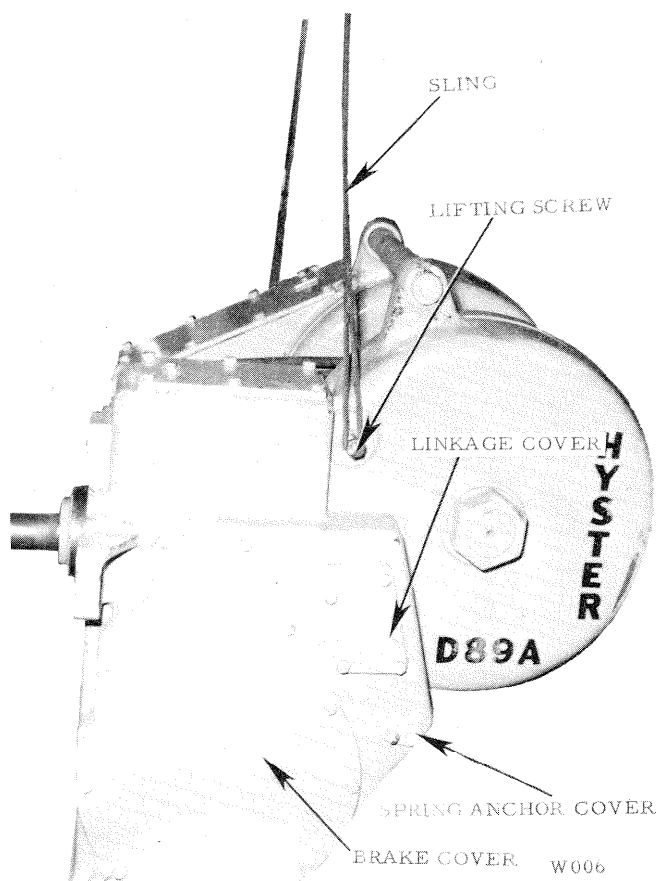
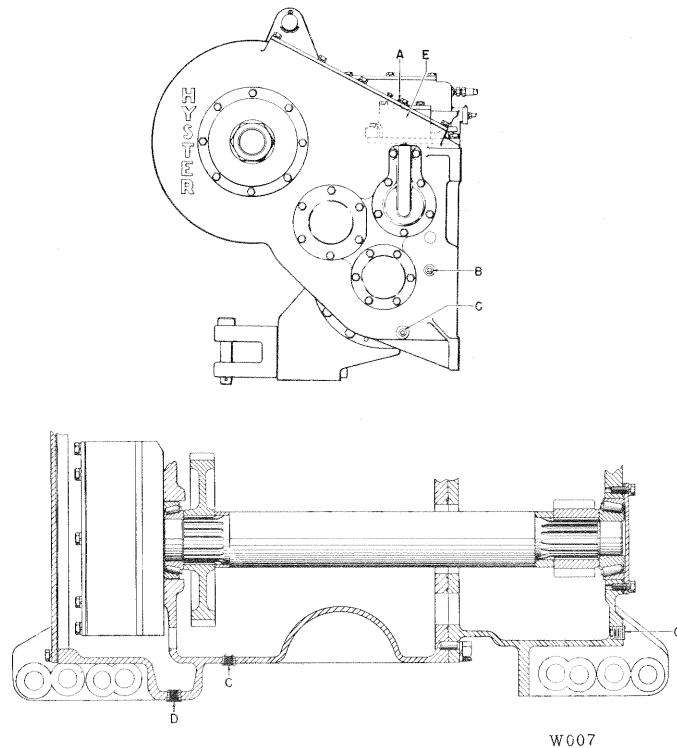

Figure 6
Figure 7
4. Attach a hoist and sling to each side of the winch, using two 7/8" UNF capscrews and the tapped holes provided for lifting. Remove the slack from the sling. Fig. 6. Place a drain pan under the winch and unscrew the three drain plugs, two on the bottom left side and one near the bottom on the right side, (D and C), fig. 7.